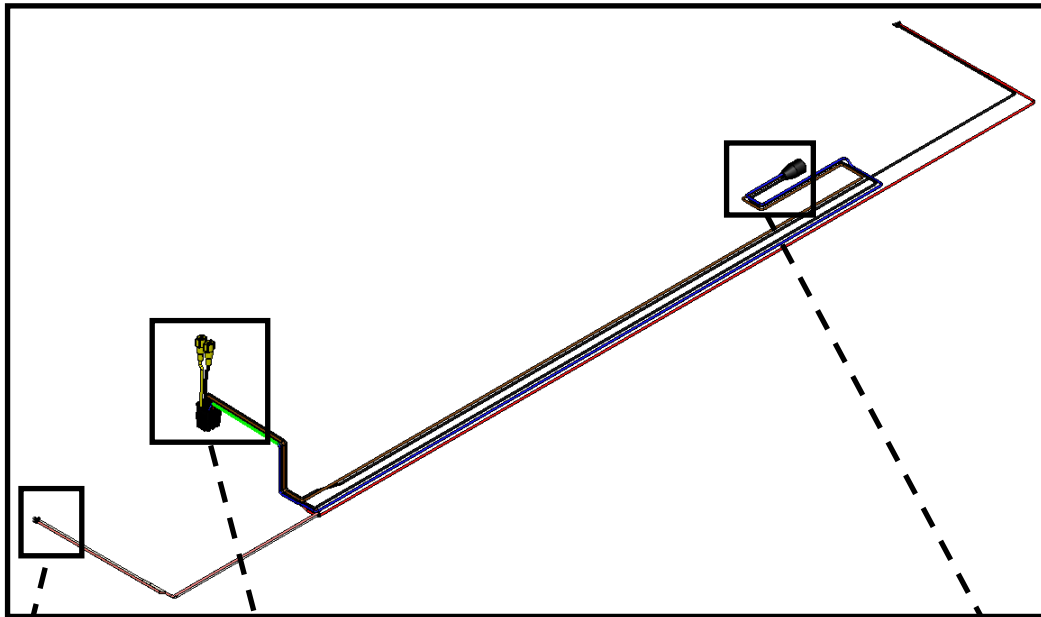

Figure 1 – Main wire harness
- a) Obtain 48295 Truss Wiring Harness and familiarize yourself with the harness by referring to Figures 1 through 4.